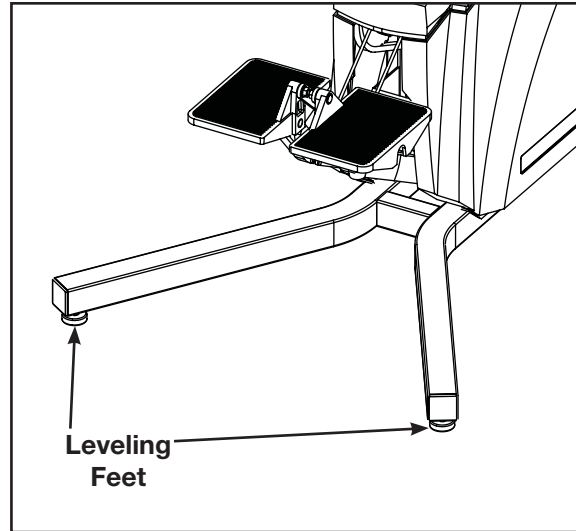

Figure 12
- C. Locate the leveling feet at the rear of the unit. See Figure 12.